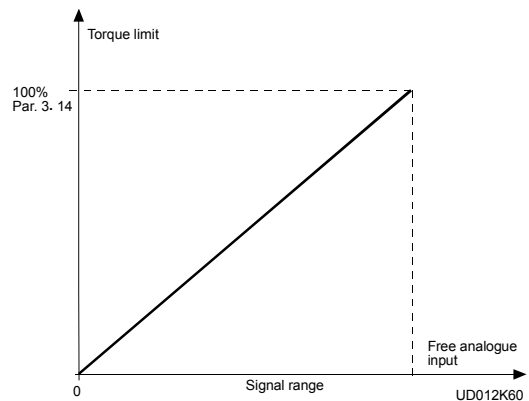

Figure 6-12: Reducing Torque Supervision Limit
- 4 “Torque Suprv Scl”** — Reducing torque supervision limit. The set torque supervision limit can be reduced with the free analog input signal between 0 and set supervision limit (parameter 3.14), see Figure 6-12.